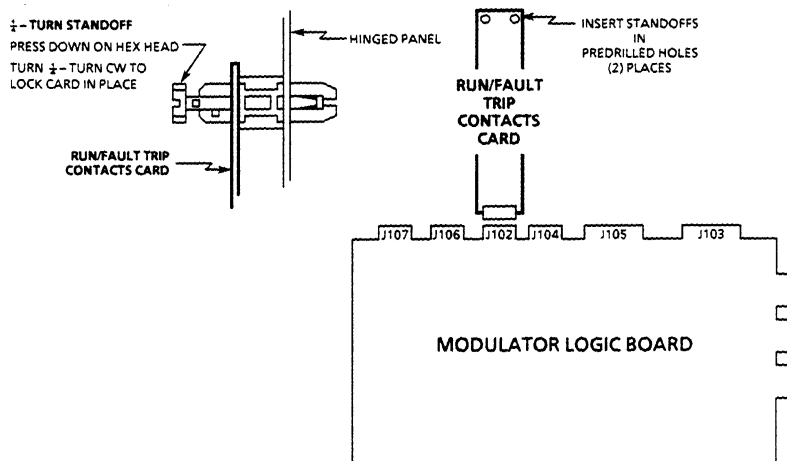

figure 1 – RUN/FAULT TRIP Contacts Card Installation
As shown in **figure 1**, two predrilled holes have been provided above Modulator Logic Board connector **J102**. Installation requires removing power to the Drive and installing (2) $\frac{1}{4}$ - turn standoffs into the predrilled holes. The card is then plugged onto the edge connector while pressing the top of the card onto the (2) installed standoffs. To secure the option card in place, press down on the hex head and turn $\frac{1}{4}$ - turn CW.